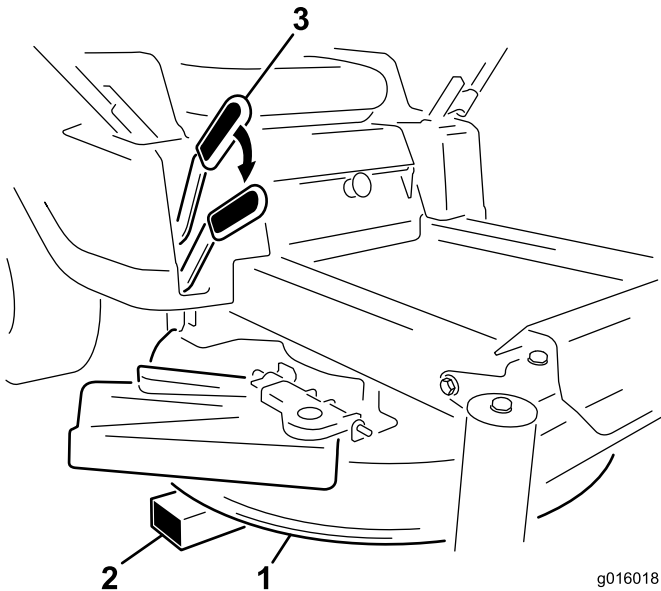

Figure 1
3. Raise the deck to the highest cutting height position. Place blocks below the deck to support it at its lowest, or next to lowest, cutting height position (Figure 1).
4. Lower the deck until its weight is supported by the blocks (Figure 1). This will allow for the safe removal of the height of cut lift lever.